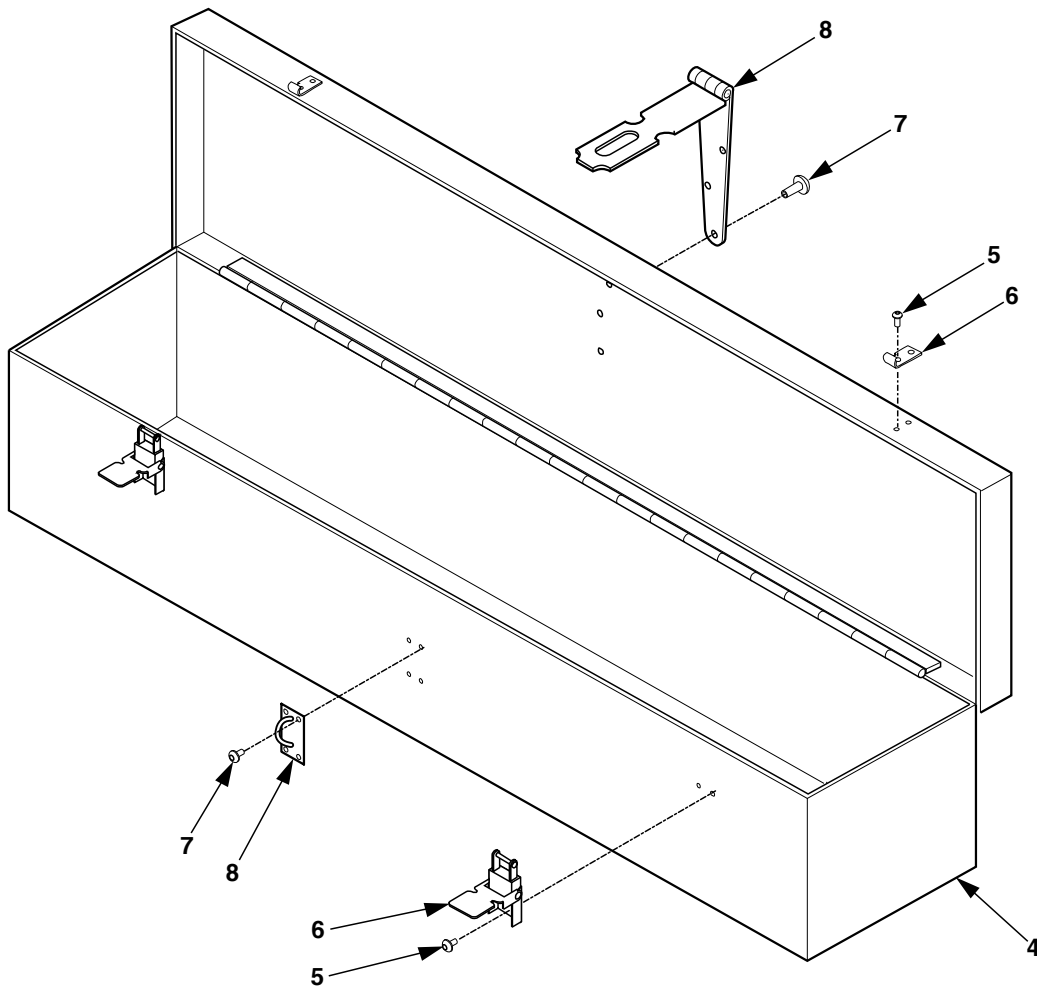

Figure 4-20. Repair Accessory Box.
- a. Drill out rivets (5, figure 4-20) that secure defective clamping catch and strike (6) to accessory box (4) and remove clamping catch and strike (6).
- b. Install new clamping catch and strike (6) on accessory box (4) and secure with rivets (5).
- a. Drill out rivets (7) on hasp (8).
- b. Install new hasp (8) on accessory box (4) with rivets (7).